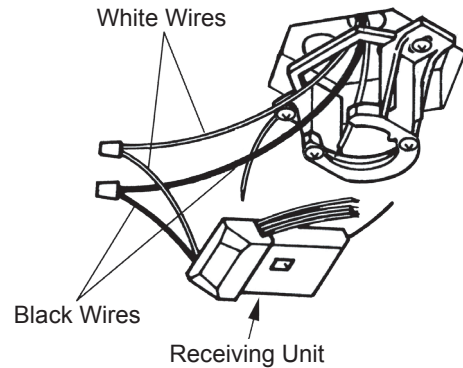

Figure 5.2
Step 2. Connect the Receiving Unit to the black and white 120-volt supply wires. (Fig. 5.2)